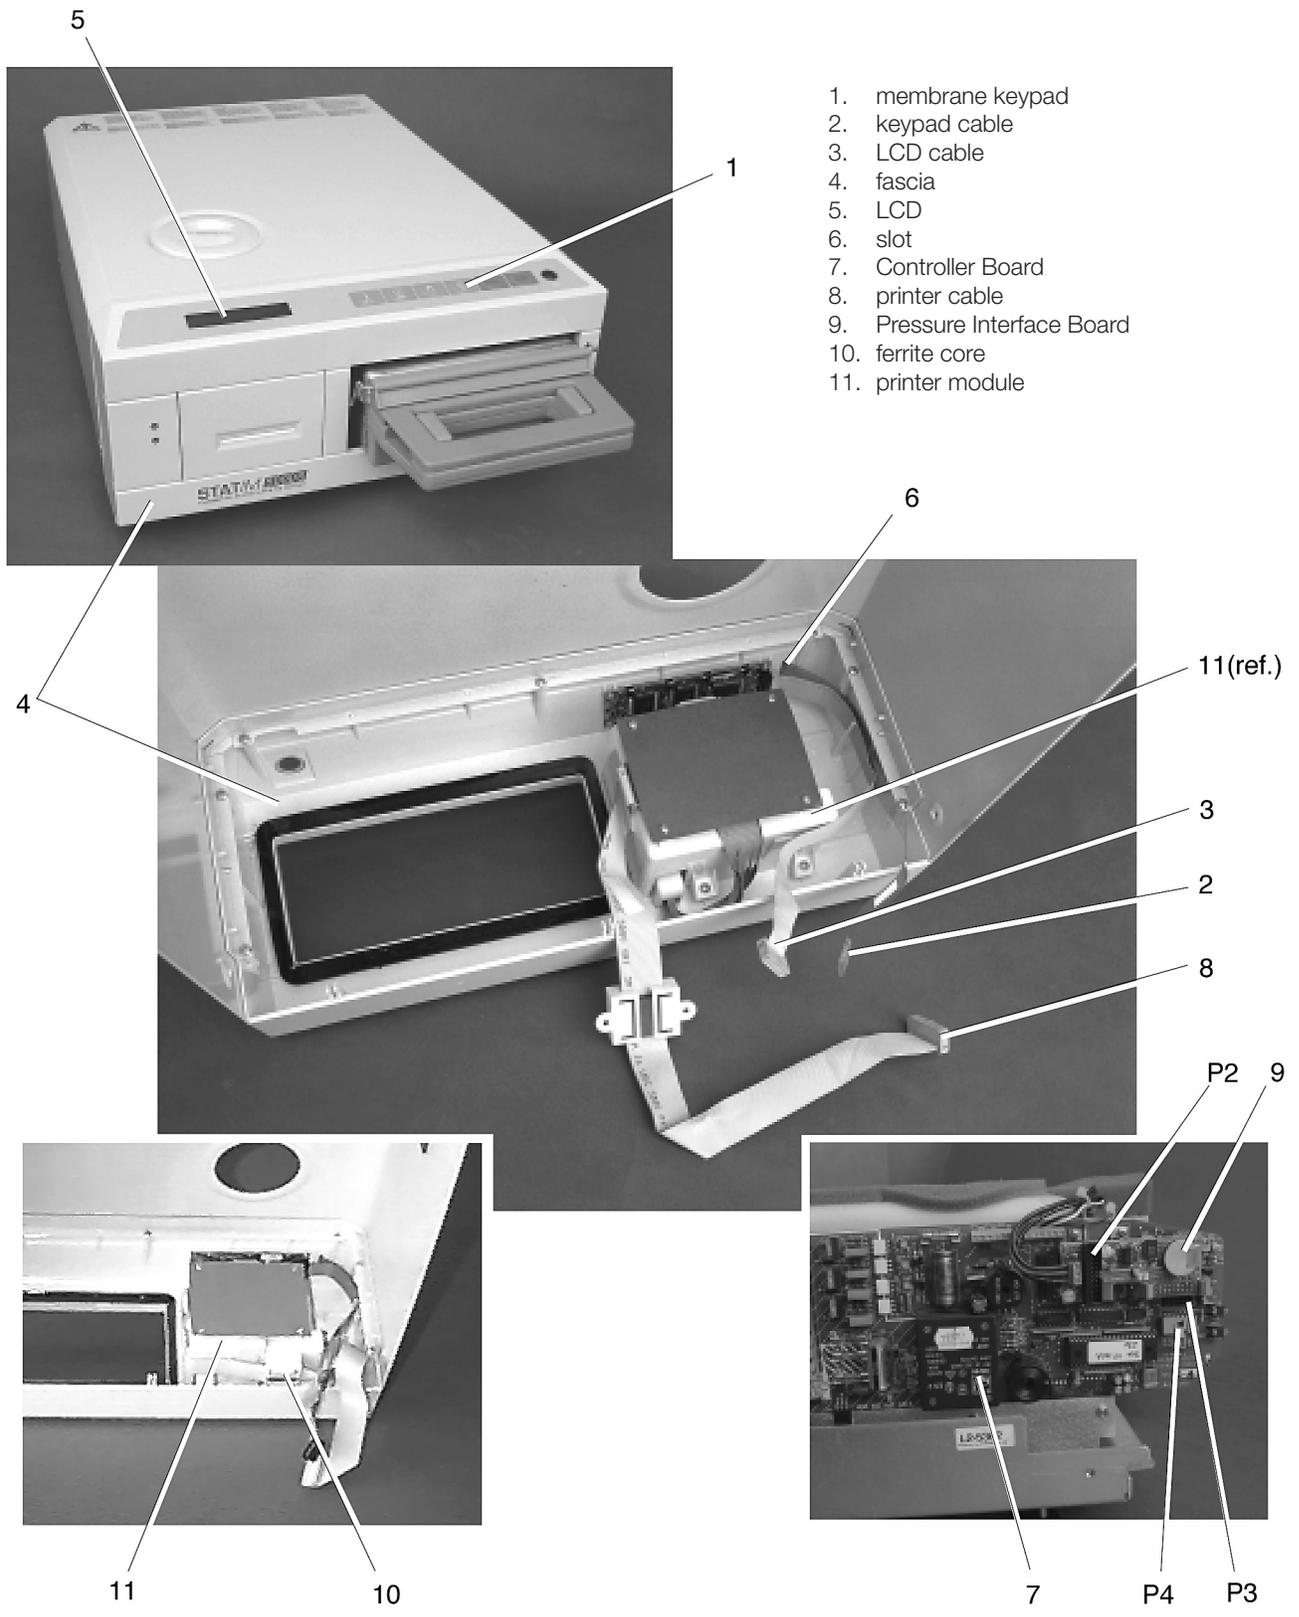

Figure 3
To remove the membrane keypad (1), proceed as follows (see Figure 3):
1. The keypad flexible cable (2) and the LCD ribbon cable (3) are secured together with double sided adhesive tape. Carefully separate the cables.
2. Using a sturdy sharp instrument, carefully lift one corner of the membrane keypad and CAREFULLY peel the membrane keypad away from the fascia (4). USE CAUTION, there may be adhesive on the edges of the LCD (5). Pass the connector through the slot (6) in the fascia.
To replace the membrane keypad (1), proceed as follows (see Figure 3):
1. The replacement membrane keypad has carrier paper on the back to protect the adhesive. With the carrier paper in place, feed the keypad cable (2) connector through the slot (6) in the fascia (4).
4. Connect the keypad cable connector to controller board (7) P4.
6. Connect the printer cable (8) connector, if present, to controller board P2 or pressure interface board (9) connector P2, if present. The printer cable in Figure 3 shows a ferrite core (10). This core may or may not be present. If present, the core must be attached to the wall of the printer module before replacing the cover.
1. If present, remove the printer module (3). See section 12. Printer, Removing the Printer Module.
2. Carefully remove the membrane keyboard (4) from the fascia. See Membrane Keypad Removal and Replacement, above.
3. Using a Phillips screw driver remove and retain the four countersink screws (5) securing the LCD to the fascia. Each screw is held by a captive fastener (6) which is integral to the LCD assembly.
4. The keypad cable (7) and the LCD cable (8) are secured together with double sided adhesive tape. Carefully separate the harnesses and remove the LCD.
To replace the LCD (1), follow these steps (see Figure 3):
1. Align the captive fasteners (6) on the LCD with the four clearance holes in the fascia (2) and reinstall the LCD using the four countersink screws (5) retained from disassembly. The LCD cable (8) and the keypad cable (7) are on the same side of the cover.